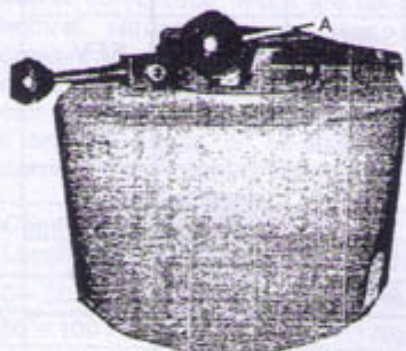
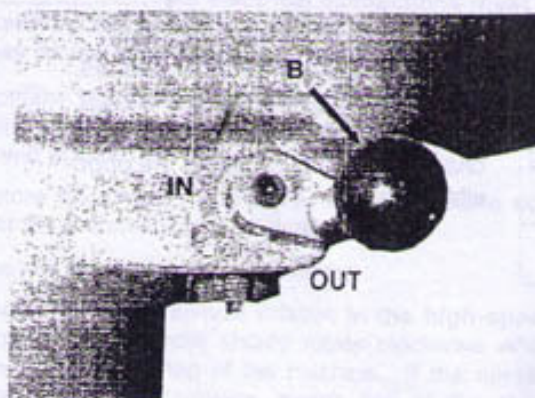

Figure 6-1
Figure 6-2
**Hi Speed:** move the handle (Fig 6-1 , A,) on front of top of head ,keep the handle B (Fig 6-2 B) on in position, rotate the spindle nose by handle until the gears match with the clutch, change the handle B on out position( Fig 6-2,B)